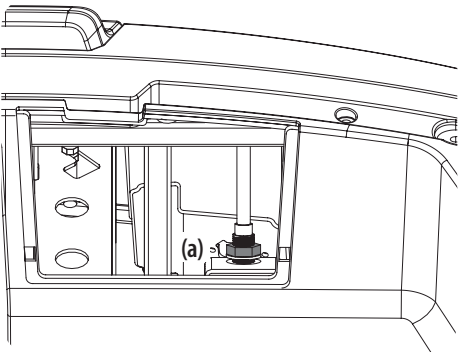

Figure 5-19
- 2. Locate the shift lever adjustment nuts (a). See Figure 5-19.
- 3. Adjust the nuts (a) up or down until the shift lever is working properly. See Figure 5-19.